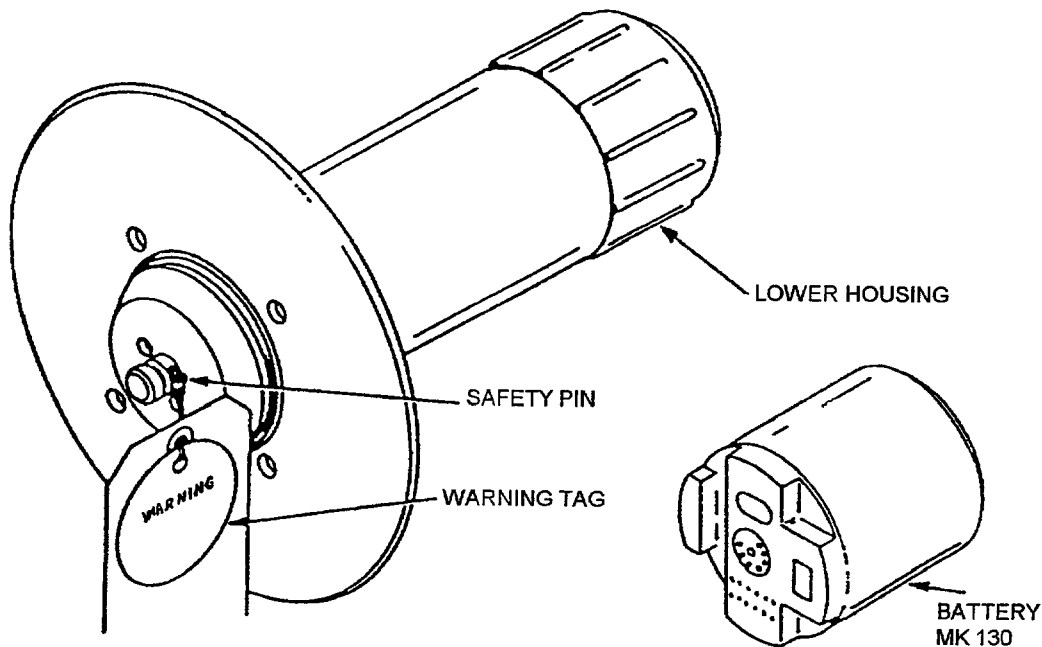

Figure 4-2A. Target Detecting Device Mk 57 and Battery Mk 130
- d. Inspect TDD for presence of safety pin and warning tag (Figure 4-2A).
- (1) Place a 2- by 4-foot antistatic mat on a flat, level workbench.
- (2) Place an 4- by 6-foot antistatic floor mat (with cord) on the deck in front of the workbench.
- (3) Connect the antistatic floor mat to shop ground using the attached 15-foot cord.